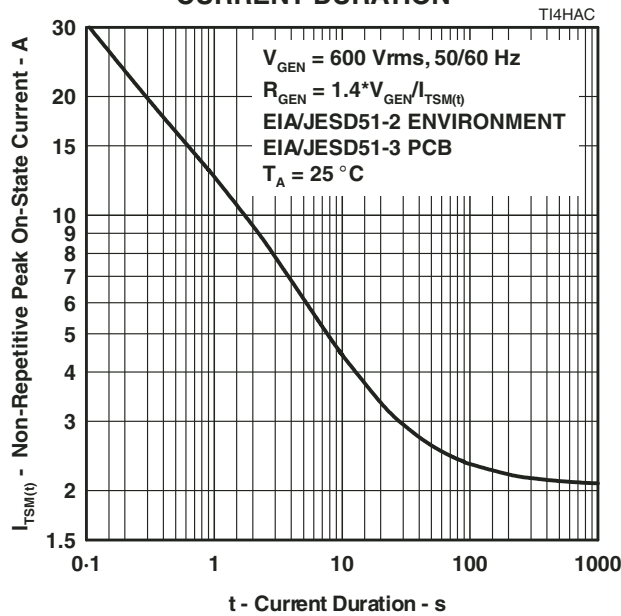

Figure 6.
5. EIA/JESD51-2 environment and EIA/JESD51-3 PCB with standard footprint dimensions connected with 5 A rated printed wiring track widths. See Figure 6 for the current ratings at other durations. Derate current values at -0.61 %/°C for ambient temperatures above 25 °C.